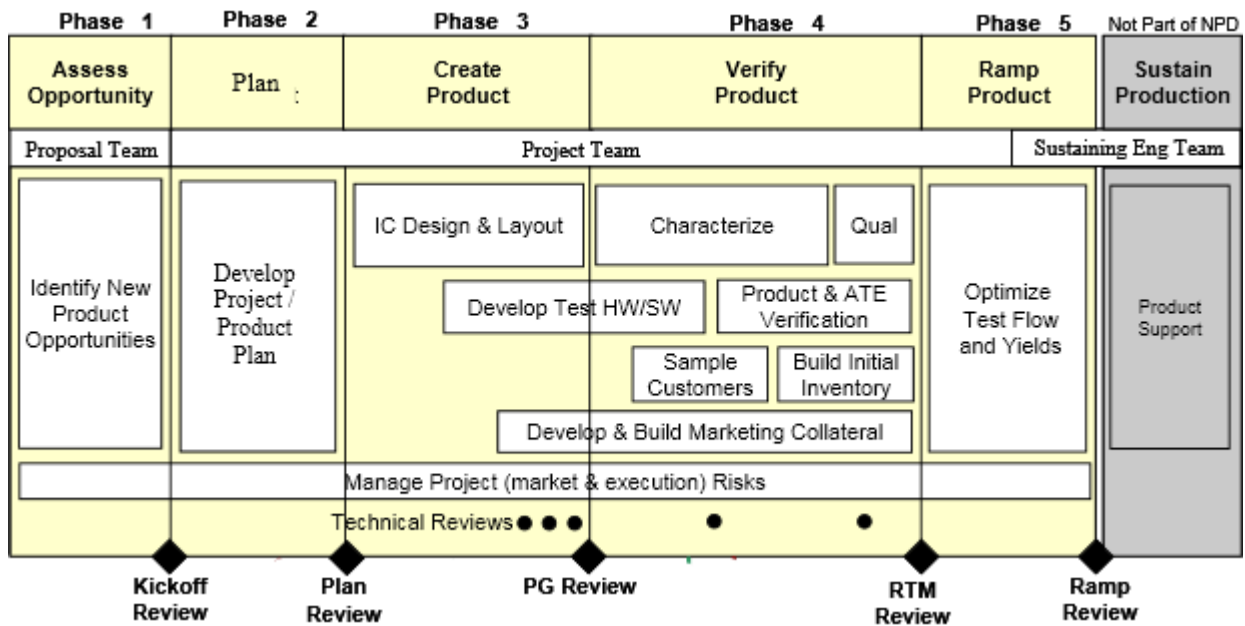

Figure 8. TI Standard MCU QM Development Process
Figure 8 shows the Texas Instruments Incorporated (TI) standard silicon development process.